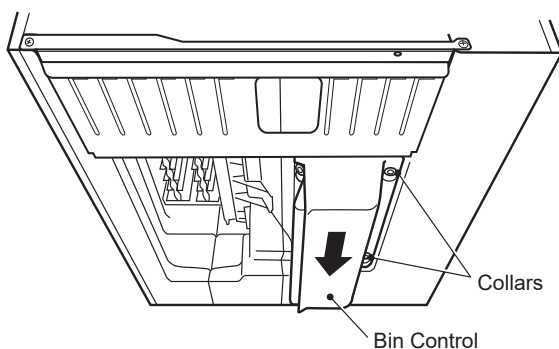

**Fig. 5**
6) Route the bin control lead through the hole in the base, then into the bushing provided. See Fig. 5.